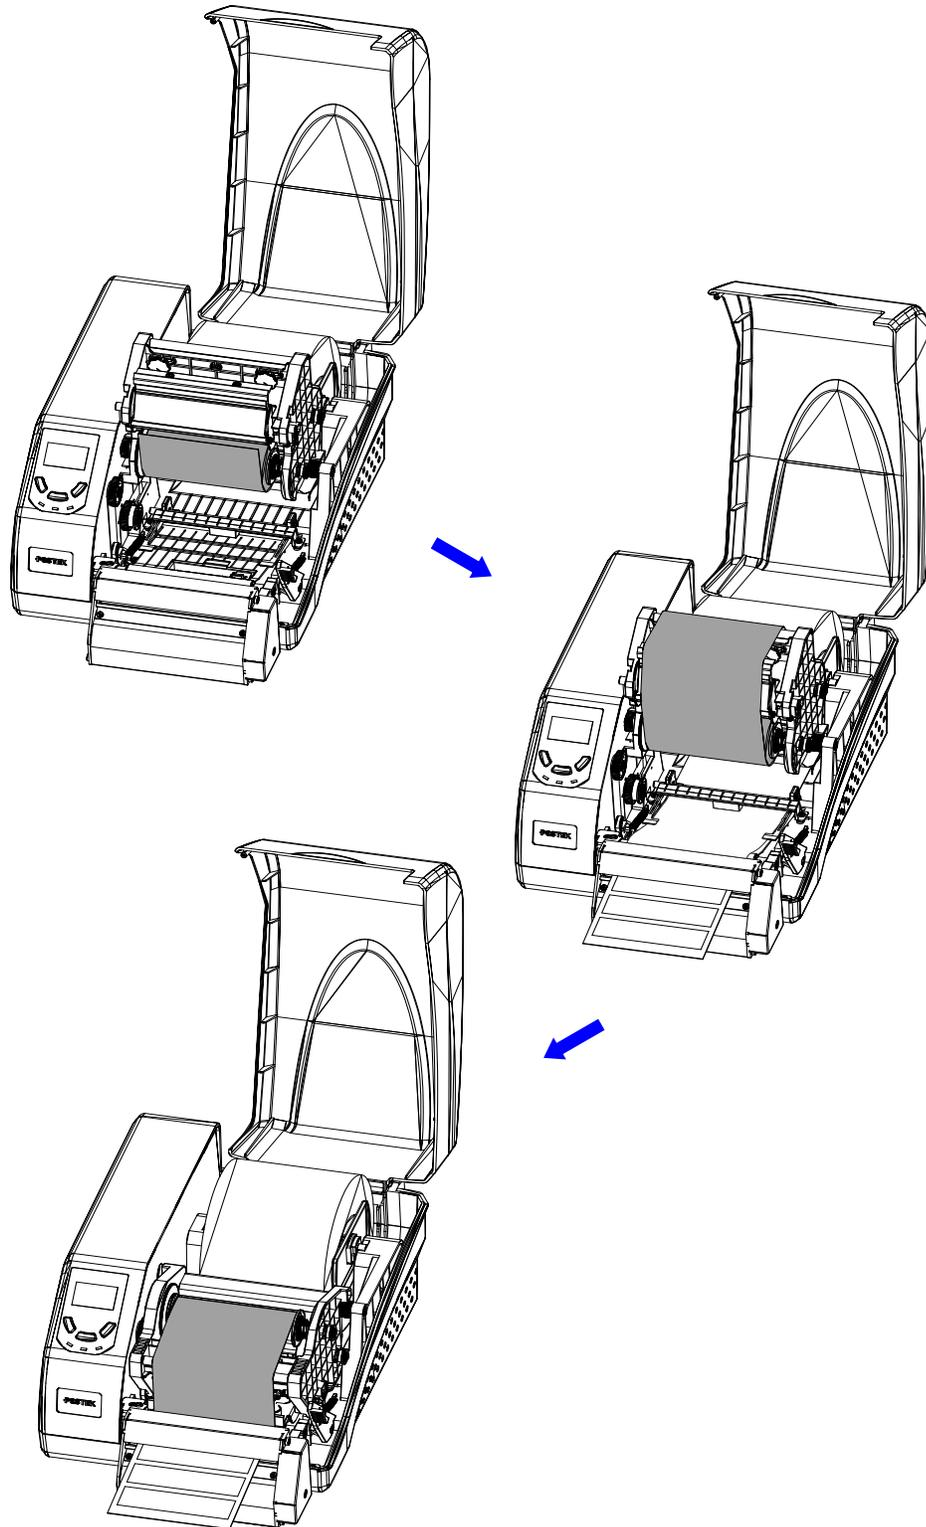

Figure 6-6
4. Load media as shown in Figure 6-6. The Cutter is now ready to use.